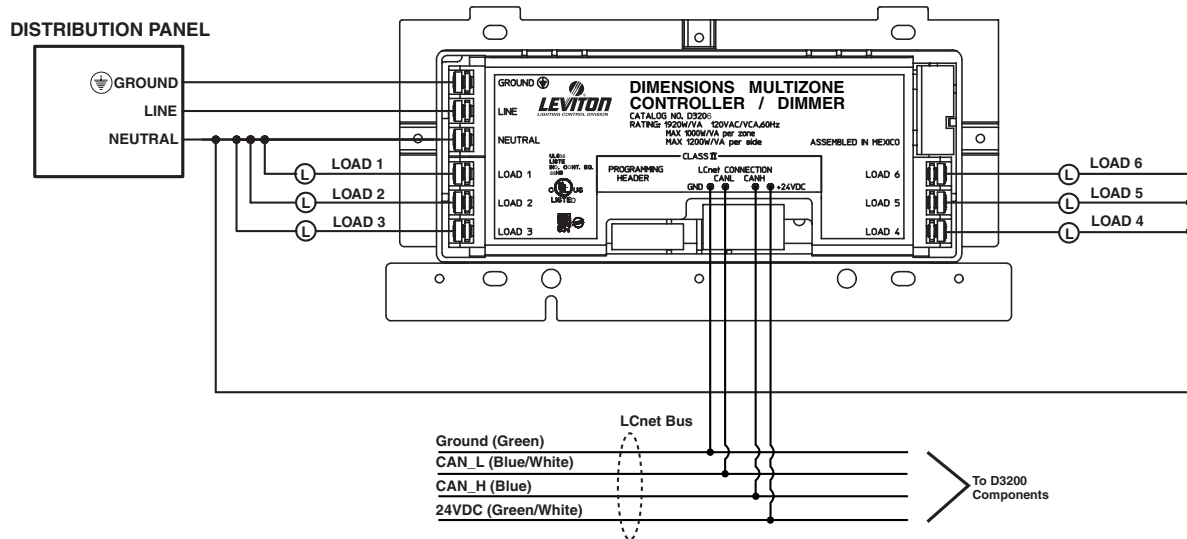

Figure 4-1: Multizone Controller Wiring Diagram
- Check the wiring against Figure 4-1.